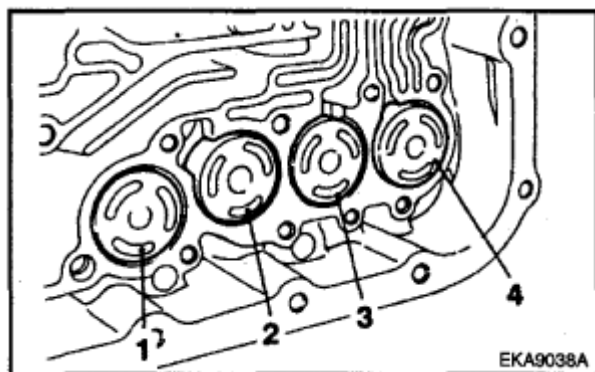

Fig. 143: Installing Accumulators
93. Install the accumulators with the springs according to **Fig. 143** and **ACCUMULATOR IDENTIFICATION CHART**. The accumulators should be flush with the transaxle case.